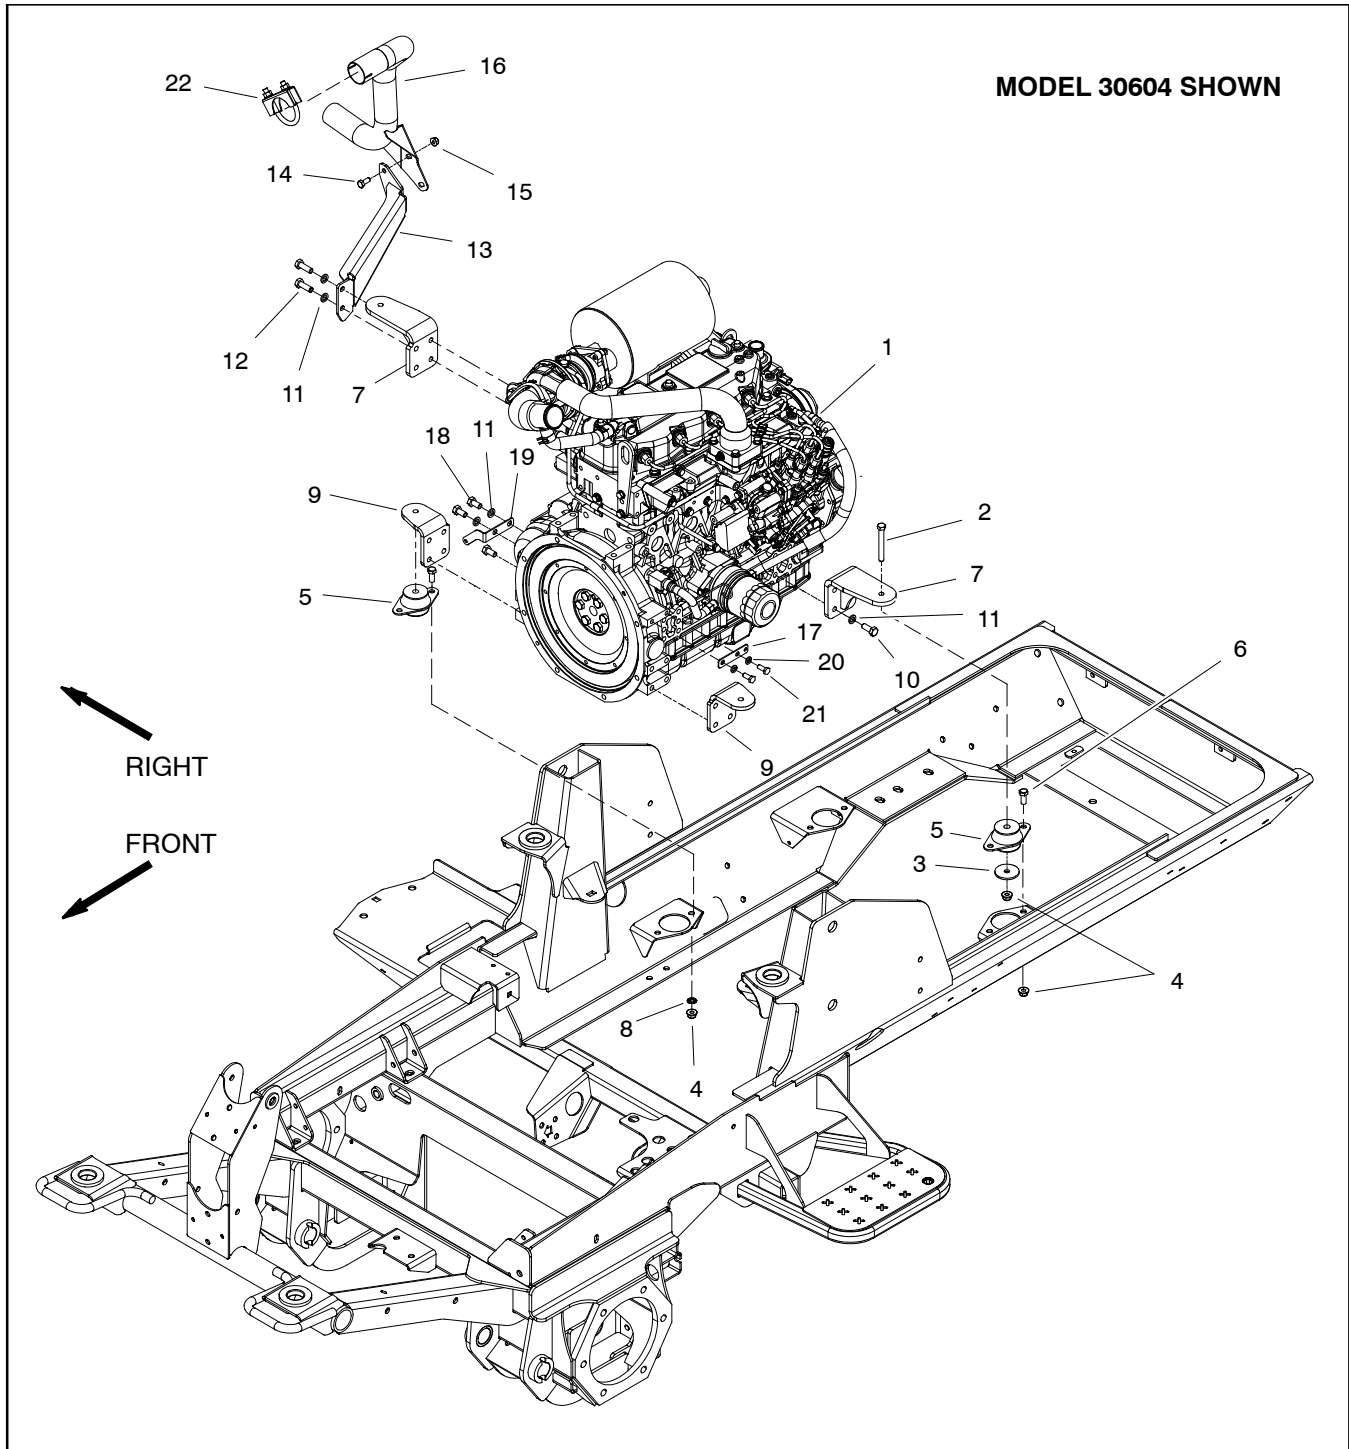

Figure 15
Engine Removal (Fig. 15)
6. Remove exhaust pipe (item 16 in Fig. 15) and exhaust bracket (item 13 in Fig. 15 or item 6 in Fig. 20) from engine.
18. If necessary, remove engine mount brackets from the engine using Figure 15 or 20 as a guide.
Engine Installation (Fig. 15)
2. If removed, install engine mount brackets to the engine using Figure 15 or 20 as a guide.